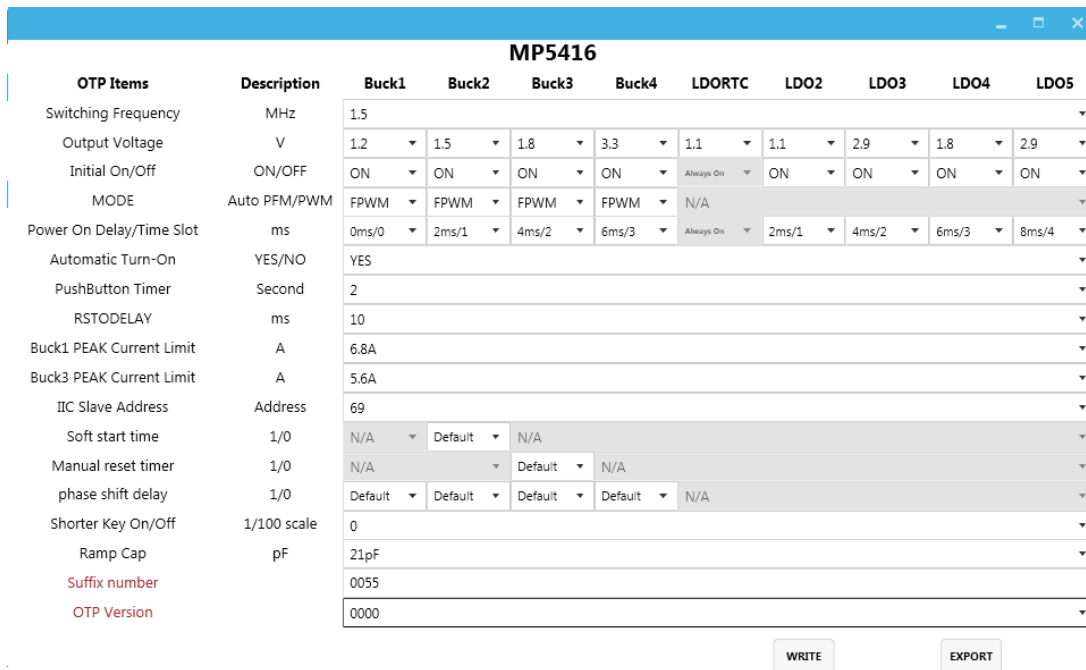

Figure 14: Fully Populated Table and Active “Write” and “Export” Buttons
7. Select values from the drop-down menus. Note that the WRITE and EXPORT buttons are active only when all the parameters are populated (see Figure 14).